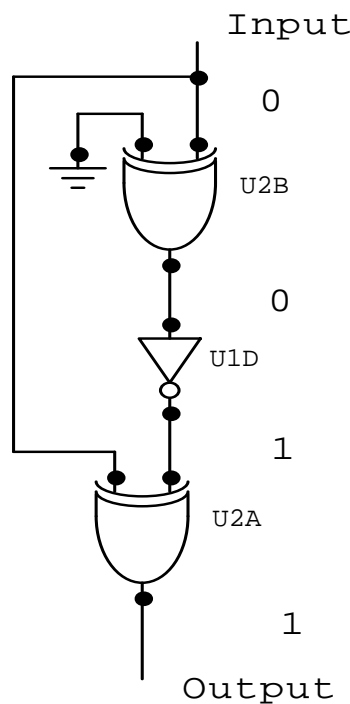

Figure 3.3: Dual Edge Detector Circuit
3. The Dual Edge Detector Circuit shown in Figure 3.3 operates only because of propagation delay. Create a timing diagram showing the output of the circuit. Assume the input is (one half cycle of) a square wave whose period is long compared to the rise and fall times. All gates are assumed to have identical propagation delays T_{PD} and 0 ns Rise and Fall Times T_R and T_F . The initial condition of the output of each of the three gates (0 or 1) is given to assist you in this process.